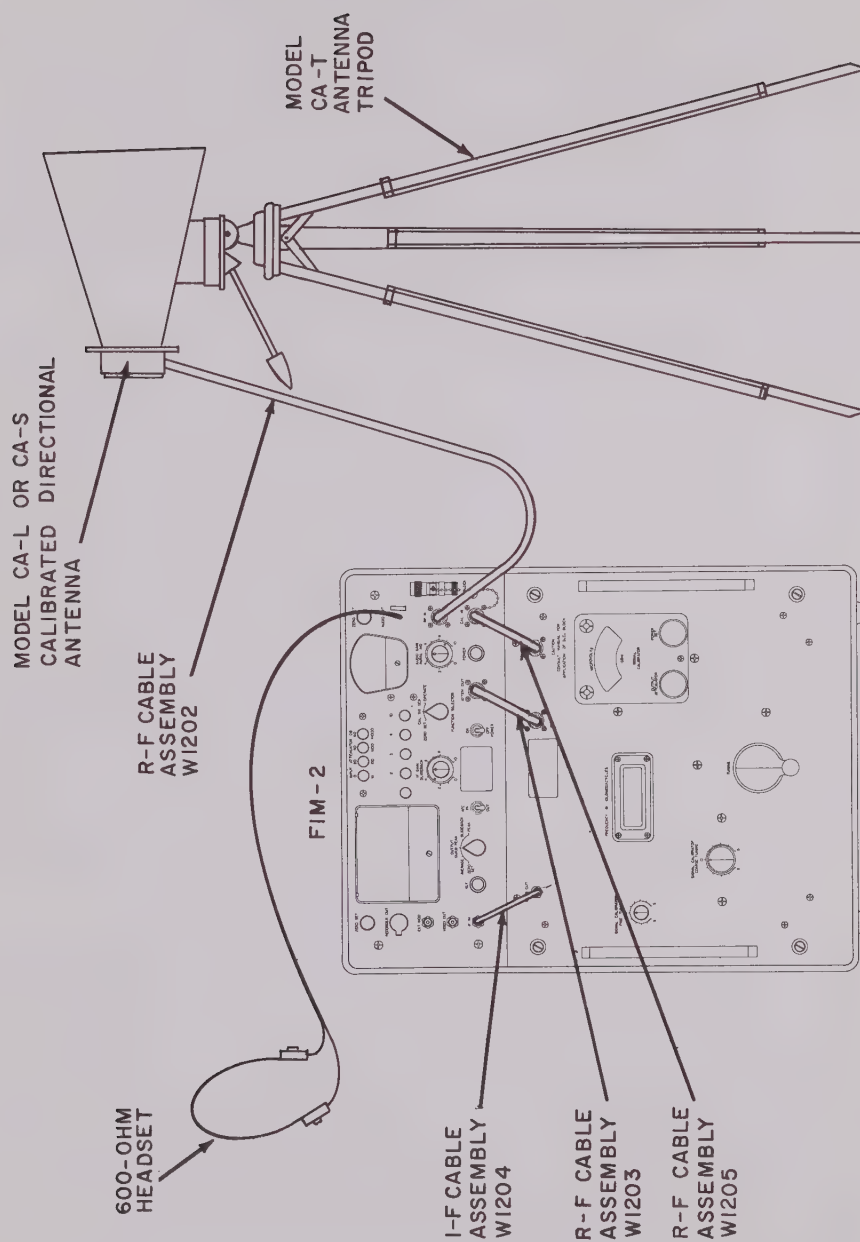

Figure 2-11. Field Intensity Measurements, Equipment Set Up
b. Connect r-f cable assembly W1205 as a jumper between the SIG GEN OUT jack and the CAL IN jack, as shown in figure 2-11.
c. Connect r-f cable assembly W1203 as a jumper between the ATTEN OUT jack and the PRESEL IN jack, as shown in figure 2-11.
d. Connect i-f cable assembly W1204 as a jumper between the MIXER OUT jack and the IF IN jack, as shown in figure 2-11.
- o. Connect r-f cable assembly W1202 between the RF IN jack and the output connector of the calibrated antenna corresponding to the Tuning Unit in use, as shown in figure 2-11.
- p. Connect a 600-ohm headset to the AUDIO OUT jack, as shown in figure 2-11.